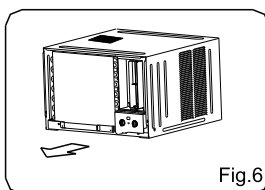

Fig.6
- Grasp the handle on the chassis and carefully slide the air conditioner out of the cabinet. (See Fig.6)